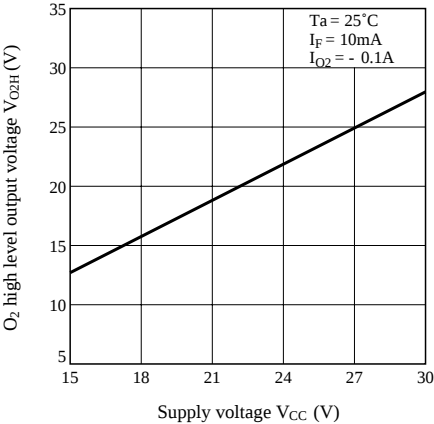

Fig. 10 O₂ High Level Output Voltage vs. Ambient Temperature
Figure 10 is a line graph showing the relationship between the Overcurrent detecting voltage V_{CTH} (V) on the Y-axis and the Supply voltage V_{CC} (V) on the X-axis. The X-axis ranges from 15V to 30V, and the Y-axis ranges from 0V to 25V. Four linear plots are shown, corresponding to different added resistances: 0Ω , $0.5k\Omega$, $1k\Omega$, and $1.5k\Omega$. The plots show that V_{CTH} increases linearly with V_{CC} , and the slope of the increase is affected by the added resistance. The plot for 0Ω is the highest, followed by $0.5k\Omega$, $1k\Omega$, and $1.5k\Omega$.